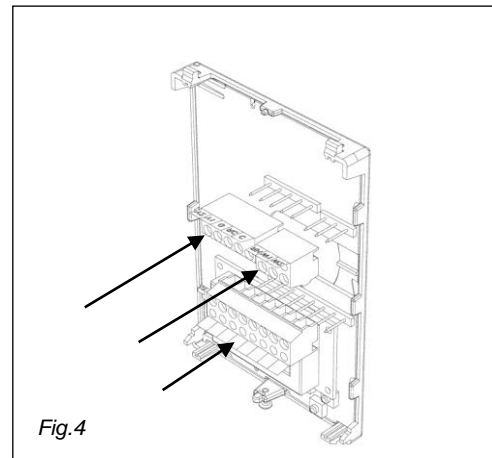

Fig.4
- 13- Gently push back into hole excess wiring **(Fig. 4)**
- 14- Re-Install wiring terminals in correct location. **(Fig. 4)**